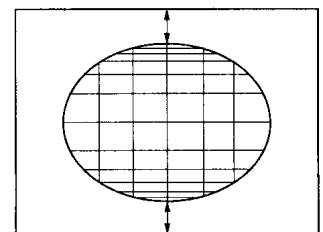

fig. 4
- Adjust the S-Correction to obtain a balance between upper, lower and center (Fig. 4).